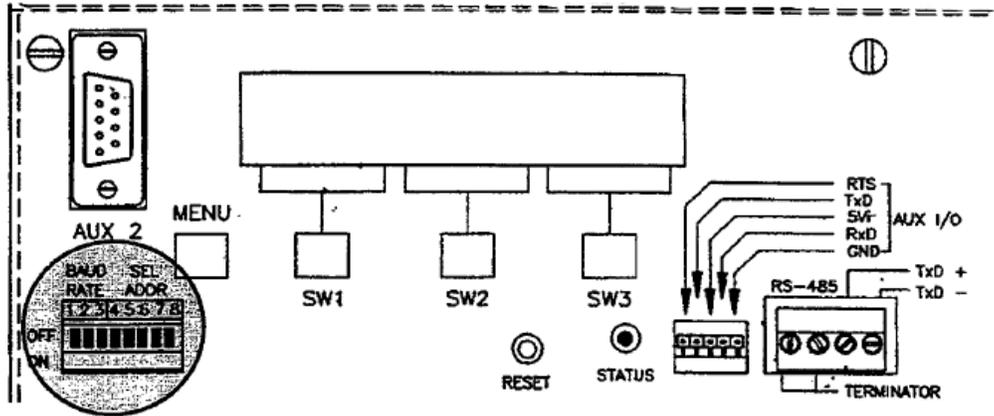

Figure 7-1. Serial Communication Parameter Selection Switch.
The DXp-40 is equipped with a variety of standard and optional serial output formats that are selected using a series of DIP switches (Figure 7-1). DIP switch positions 1, 2, and 3 (Table 7-1) allow four format choices; Digi-System Network, continuous output, terminal/computer interface, and MODBUS RTU. Allen-Bradley Remote I/O is available as an option, but requires different documentation (see page 7-9). All types of DXp interfacing will be discussed in the following paragraphs. Positions 4-7 designate transmitter address for applications requiring more than one DXp unit (Table 7-2). Switch position 8 is unused and should be left in the '0' (ON) position.